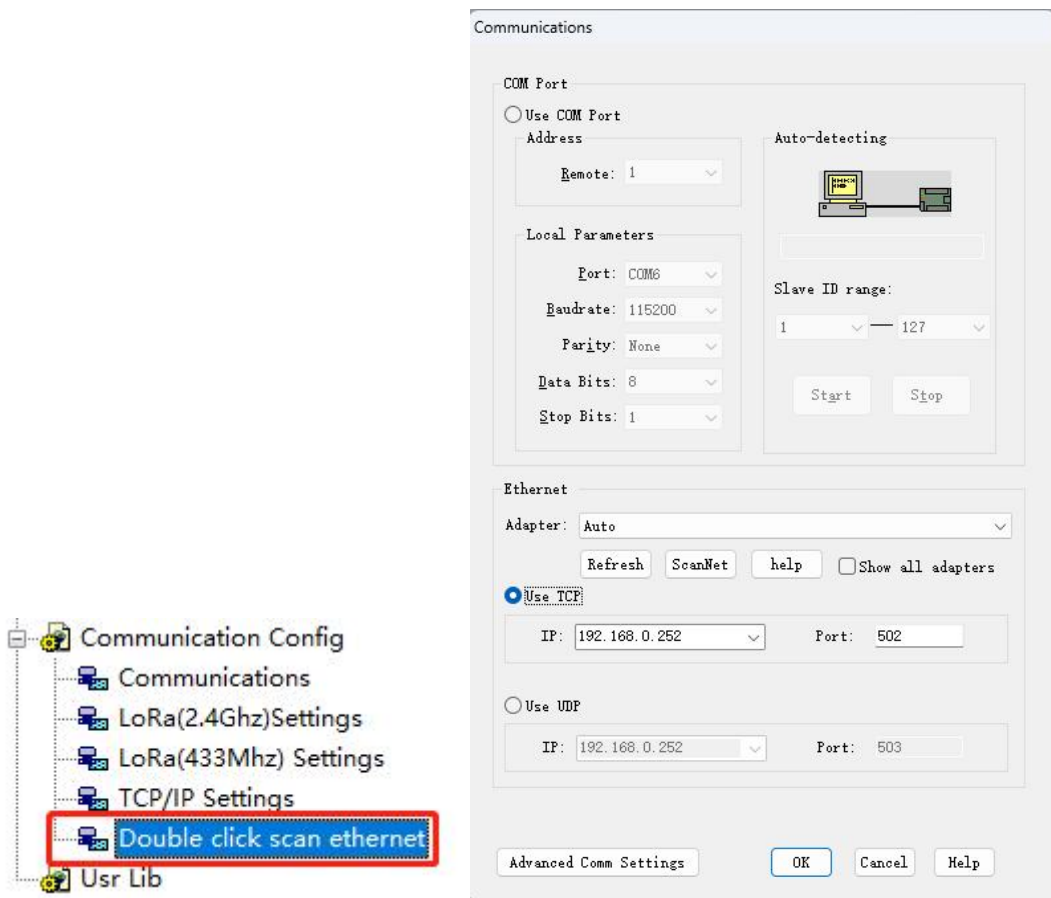

Figure 6.6-1 Scan the network
- 2、 This feature supports cross-network segment scanning via [Tools] [PC Communication Settings] [Scan Network] in the upper toolbar or directly by double-clicking [Double-Click Scan Ethernet] in the left device tree. KincoBuilder Also supports modifying the IP address of the PLC scanned across network segments. Due to the function of K615S-16DT and Kincobuilder communication, only supporting communication within the same network segment, it is necessary to modify the IP address of the target PLC or the IP address of the PC to be located in the same network segment of the same LAN. Please refer to the IP of PLC according to Figure 6.6-1 or refer to Figure 4.6-2.